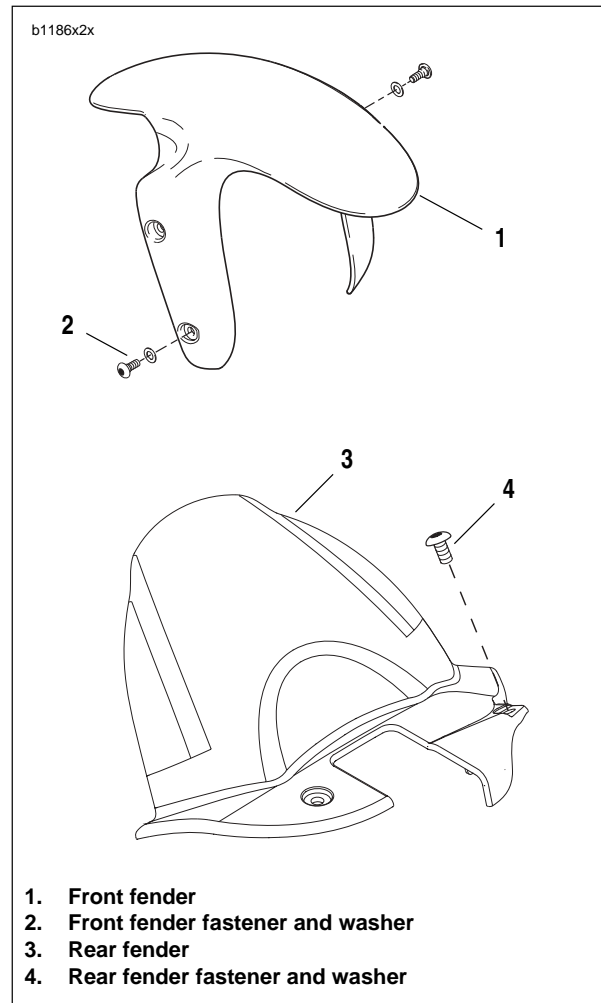

Figure 2-114. Front and Rear Fender
1. See Figure 2-114. Remove fasteners and washers (2) securing the front fender (1) to front forks.
2. Carefully remove front fender (1).
1. See Figure 2-114. Align front fender (1) to fender mounts on front forks.
2. Use LOCTITE 271 (red) on all fasteners and install front fender (1) with fasteners and washers (2) and tighten to 36-48 **in-lbs** (4-5.4 Nm).
1. See Figure 2-114. Remove fasteners and washers (4) securing the rear fender (3) to swingarm.
2. Remove rear fender (3).
1. See Figure 2-114. Align rear brake line in rear fender.
2. Install rear fender (3) with fasteners and washers (4), Tighten to 12-36 **in-lbs** (1-4 Nm).